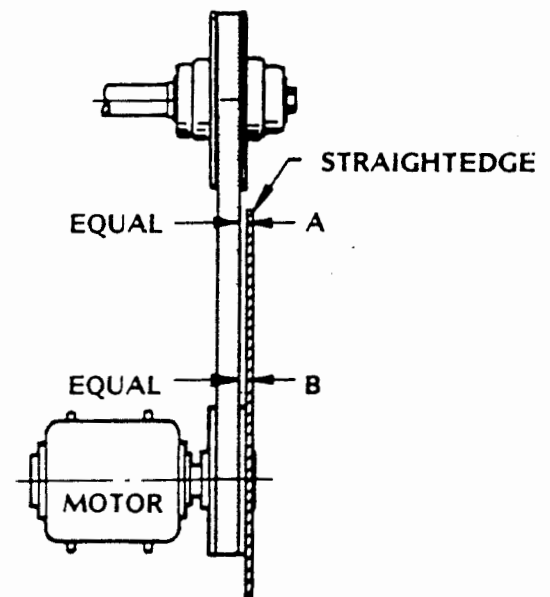

FIGURE 5
4. ACCURATELY ALIGN THE BELT — Using a straightedge as shown in Figure 5, ensure that dimensions A and B are equal. If necessary, loosen the 8800 pulley, and move in or out until A and B are equal within 1/32". Retighten the collet drawbolt.